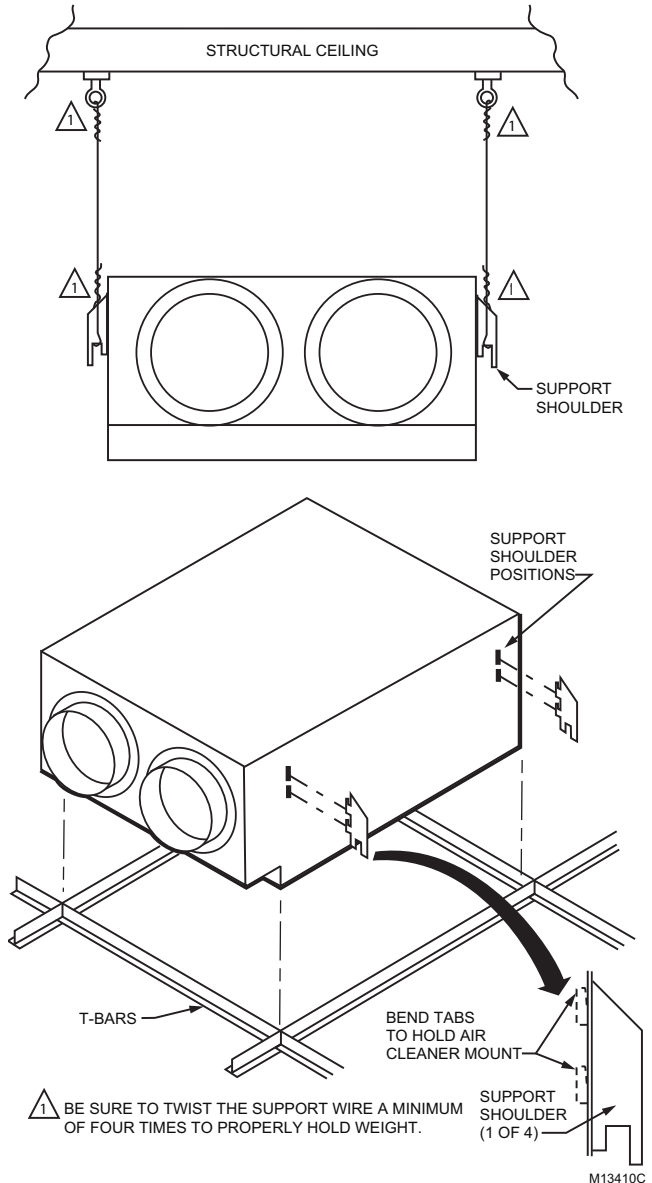

Fig. 6. Installing F120A return module.
1. The return module mounts level with the drop ceiling T-bars. Mark the location for the mounting bolts in the structural ceiling. See Fig. 6.